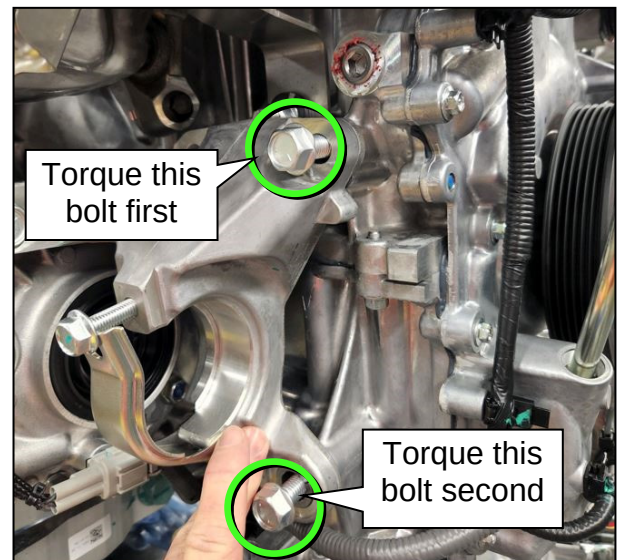

Figure 10
4. While continuing to hold the drive shaft support bearing bracket into position, torque the top drive shaft support bearing bracket to engine block bolt to specification first, and then torque the lower drive shaft support bearing bracket to engine block bolt (Figure 10).